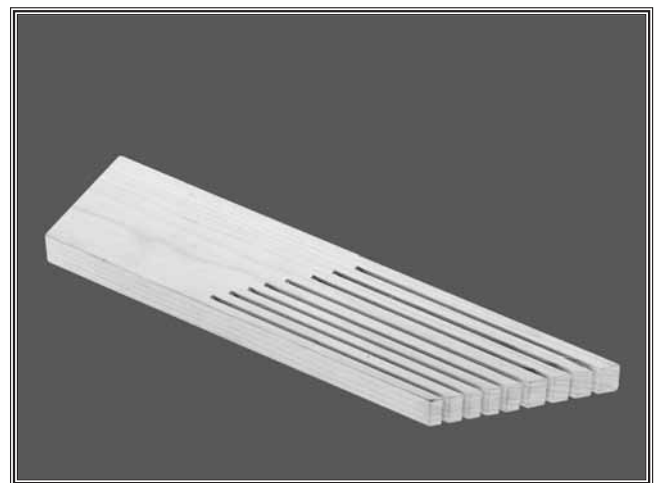

Figure 75. Anti-kickback featherboard.
- **Featherboards** similar to the one in **Figure 75** make good anti-kickback devices. To use these, they must be clamped to the table or fence. The angled ends and flexibility of the fingers allow the workpiece to move in one direction and lock up if the workpiece moves backwards.